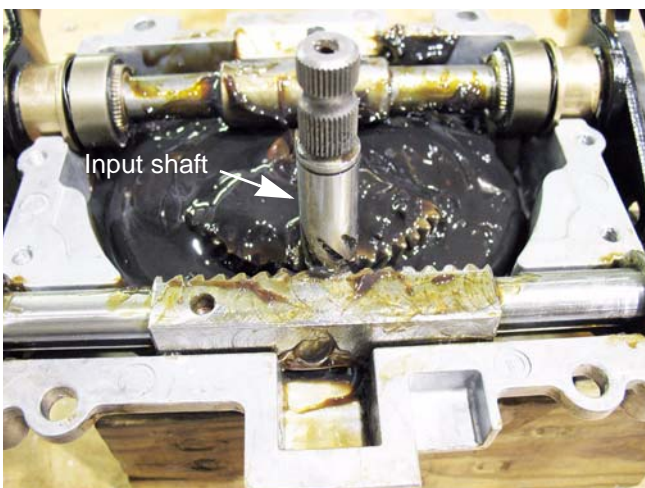

Figure 6.58
16. Install the input shaft so that it is centered with the hole in the sector gear and the center of the void for the wear block. See Figure 6.58.